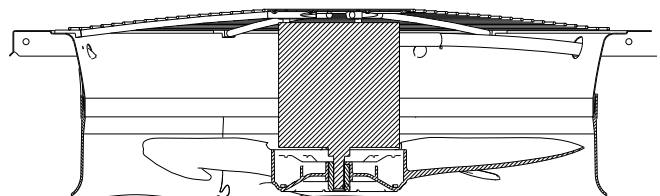

Fig. 32 — Condenser Fan Adjustment
2. Remove condenser-fan assembly (grille, motor, and fan). See Fig. 32.